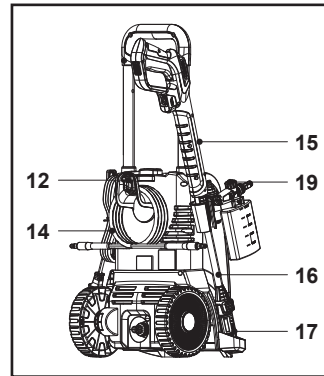

Fig. 22
3. Wrap the pressure hose (14) and hang it on the pressure hose bracket (12); Store the spray gun (15), extension lance (16), detergent bottle nozzle (19) and nozzle (17 / 18) (Fig. 22).
4. Always transport the machine by its transport handle (1) and rear wheels (8).